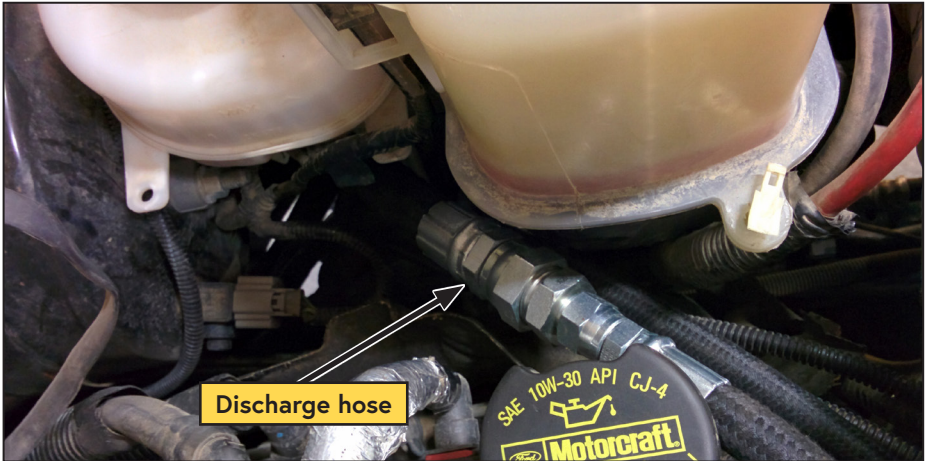

Figure 22 — Discharge hose assembly routing
- The discharge hose assembly should rest naturally near the coolant reservoir on the driver side of the vehicle (Figure 22).